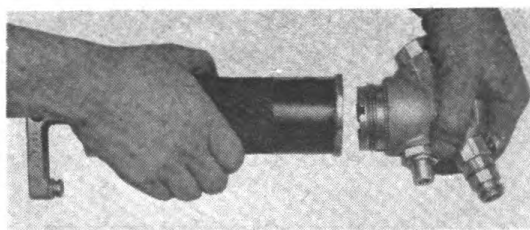

Figure 71
a. Unscrew cylinder from gun head (See Figure 71).